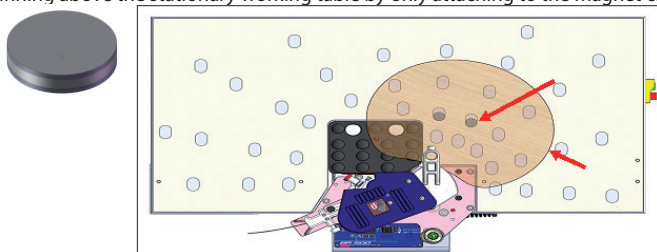

**Fig. 11**
- Put the protection cover onto the edgebander ( Fig 11) and begin the operation ( Fig 12).